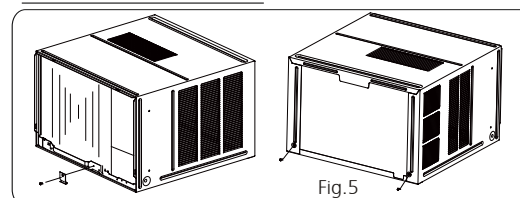

Fig.5
1. Remove one screw securing the chassis fixing bracket, then take down the chassis fixing bracket. Remove two screws located on the back of the cabinet as shown in Fig. 5.